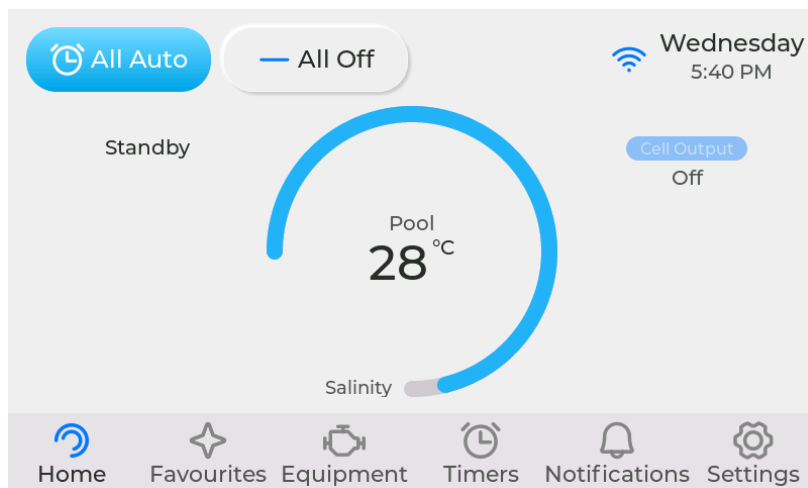

Figure 5. Home Screen
- The main status area shows whether Echo is sanitising, filtering, heating, in standby, in manual mode or waiting for the next timer. See *Figure 5*.